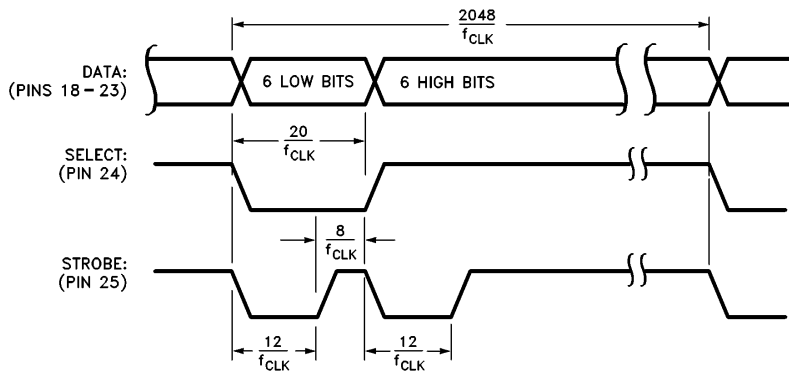
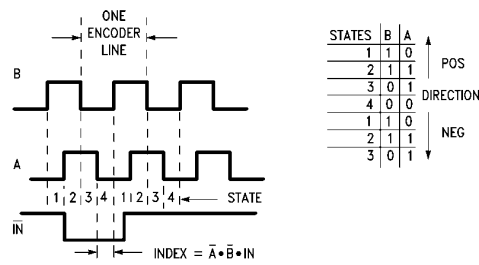

FIGURE 8. 12-Bit Multiplexed Output Timing
FIGURE 9. Quadrature Encoder Signals
**Pin 1 (17), Index ( $\overline{IN}$ ) Input:** Receives optional index pulse from the encoder. Must be tied high if not used. The index position is read when Pins 1, 2, and 3 are low.
**Pins 2 and 3 (18 and 19), Encoder Signal (A, B) Inputs:** Receive the two-phase quadrature signals provided by the incremental encoder. When the motor is rotating in the positive ("forward") direction, the signal at Pin 2 leads the signal at Pin 3 by 90 degrees. Note that the signals at Pins 2 and 3 must remain at each encoder state (See Figure 9) for a minimum of 8 clock periods in order to be recognized. Because of a four-to-one resolution advantage gained by the method of decoding the quadrature encoder signals, this corresponds to a maximum encoder-state capture rate of 1.0 MHz ( $f_{CLK} = 8.0$  MHz) or 750 kHz ( $f_{CLK} = 6.0$  MHz). For other clock frequencies the encoder signals must also remain at each state a minimum of 8 clock periods.
**Pin 12 (5), Chip Select ( $\overline{CS}$ ) Input:** Used to select the LM628 for writing and reading operations.
**Pin 13 (6), Read ( $\overline{RD}$ ) Input:** Used to read status and data.
**Pin 14 (7), Ground (GND):** Power-supply return pin.
**Pin 15 (8), Write ( $\overline{WR}$ ) Input:** Used to write commands and data.
**Pin 16 (9), Port Select ( $\overline{PS}$ ) Input:** Used to select command or data port. Selects command port when low, data port when high. The following modes are controlled by Pin 16:
**Pin 17 (10), Host Interrupt (HI) Output:** This active-high signal alerts the host (via a host interrupt service routine) that an interrupt condition has occurred.
2. LM628 (12-bit output mode): Outputs two, multiplexed 6-bit words. The less-significant word is output first. The MSB is on Pin 18 and the LSB is on Pin 23. Pin 24 is used to demultiplex the words; Pin 24 is low for the less-significant word. The positive-going edge of the signal on Pin 25 is used to strobe the output data. Figure 8 shows the timing of the multiplexed signals.
and an index pulse input. The quadrature signals are used to keep track of the absolute position of the motor. Each time a logic transition occurs at one of the quadrature inputs, the LM628 internal position register is incremented or decremented accordingly. This provides four times the resolution over the number of lines provided by the encoder. See *Figure 9*. Each of the encoder signal inputs is synchronized with the LM628 clock.
The above position, velocity, and acceleration values must be converted to binary codes to be loaded into the LM628. The values shown for velocity and acceleration must be multiplied by 65,536 (as shown) to adjust for the required integer/fraction format of the input data. Note that after scaling the velocity and acceleration values, literal fractional data cannot be loaded; the data must be rounded and converted to binary. The factor of four increase in system resolution is due to the method used to decode the quadrature encoder signals, see *Figure 9*.
The LM628 DAC output port can be configured to provide either a latched eight-bit parallel output or a multiplexed 12-bit output. The 8-bit output can be directly connected to a flow-through (non-input-latching) D/A converter; the 12-bit output can be easily demultiplexed using an external 6-bit latch and an input-latching 12-bit D/A converter. The DAC output data is offset-binary coded; the 8-bit code for zero is 80 hex and the 12-bit code for zero is 800 hex. Values less than these cause a negative torque to be applied to the motor and, conversely, larger values cause positive motor torque. The LM628, when configured for 12-bit output, provides signals which control the demultiplexing process. See Figure 8 for details.